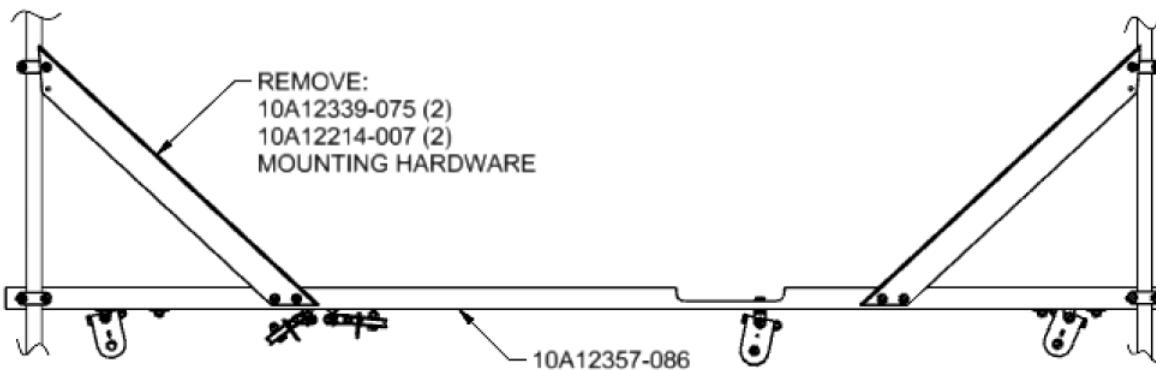

FIGURE 5
- Remove the diagonal stiffeners (10A12339-075) located on the fuselage steering support angle (10A12357-086) at fuselage station 67.88. See Figure 5.